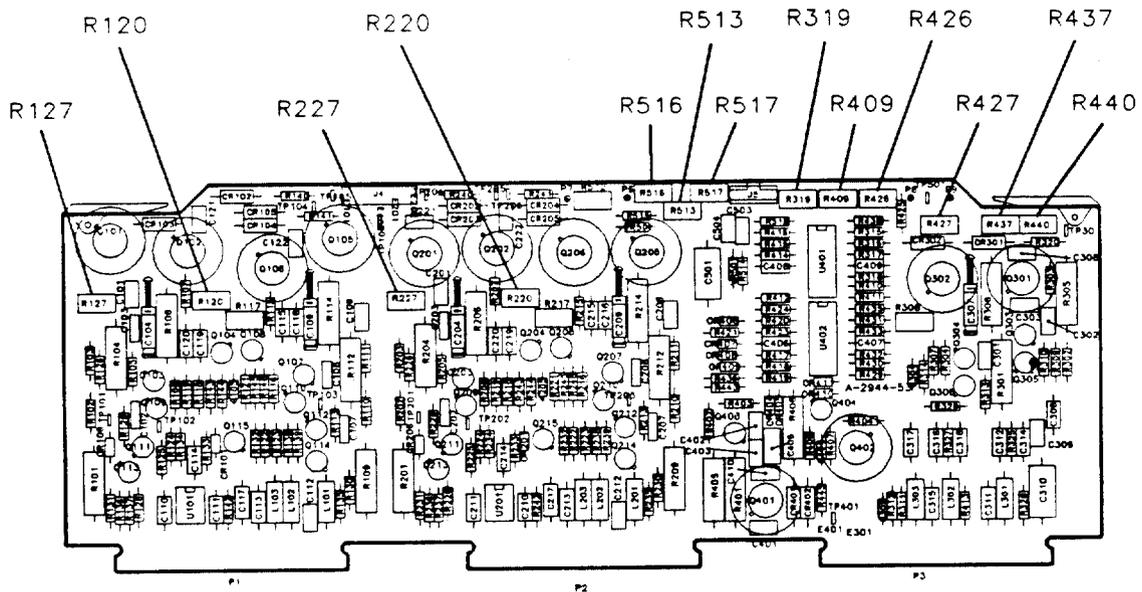

Figure 17. Location of Final Display Adjustments on A1A2
- Adjust A1A2R516 INT LIM until the display is just extinguished with front-panel INTENSITY control fully counterclockwise. See Figure 17.